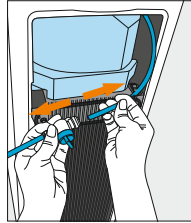

Figure 28
2. Turn off the water supply via the shut off valve, and disconnect the water supply from the cooler. (Figure 28)